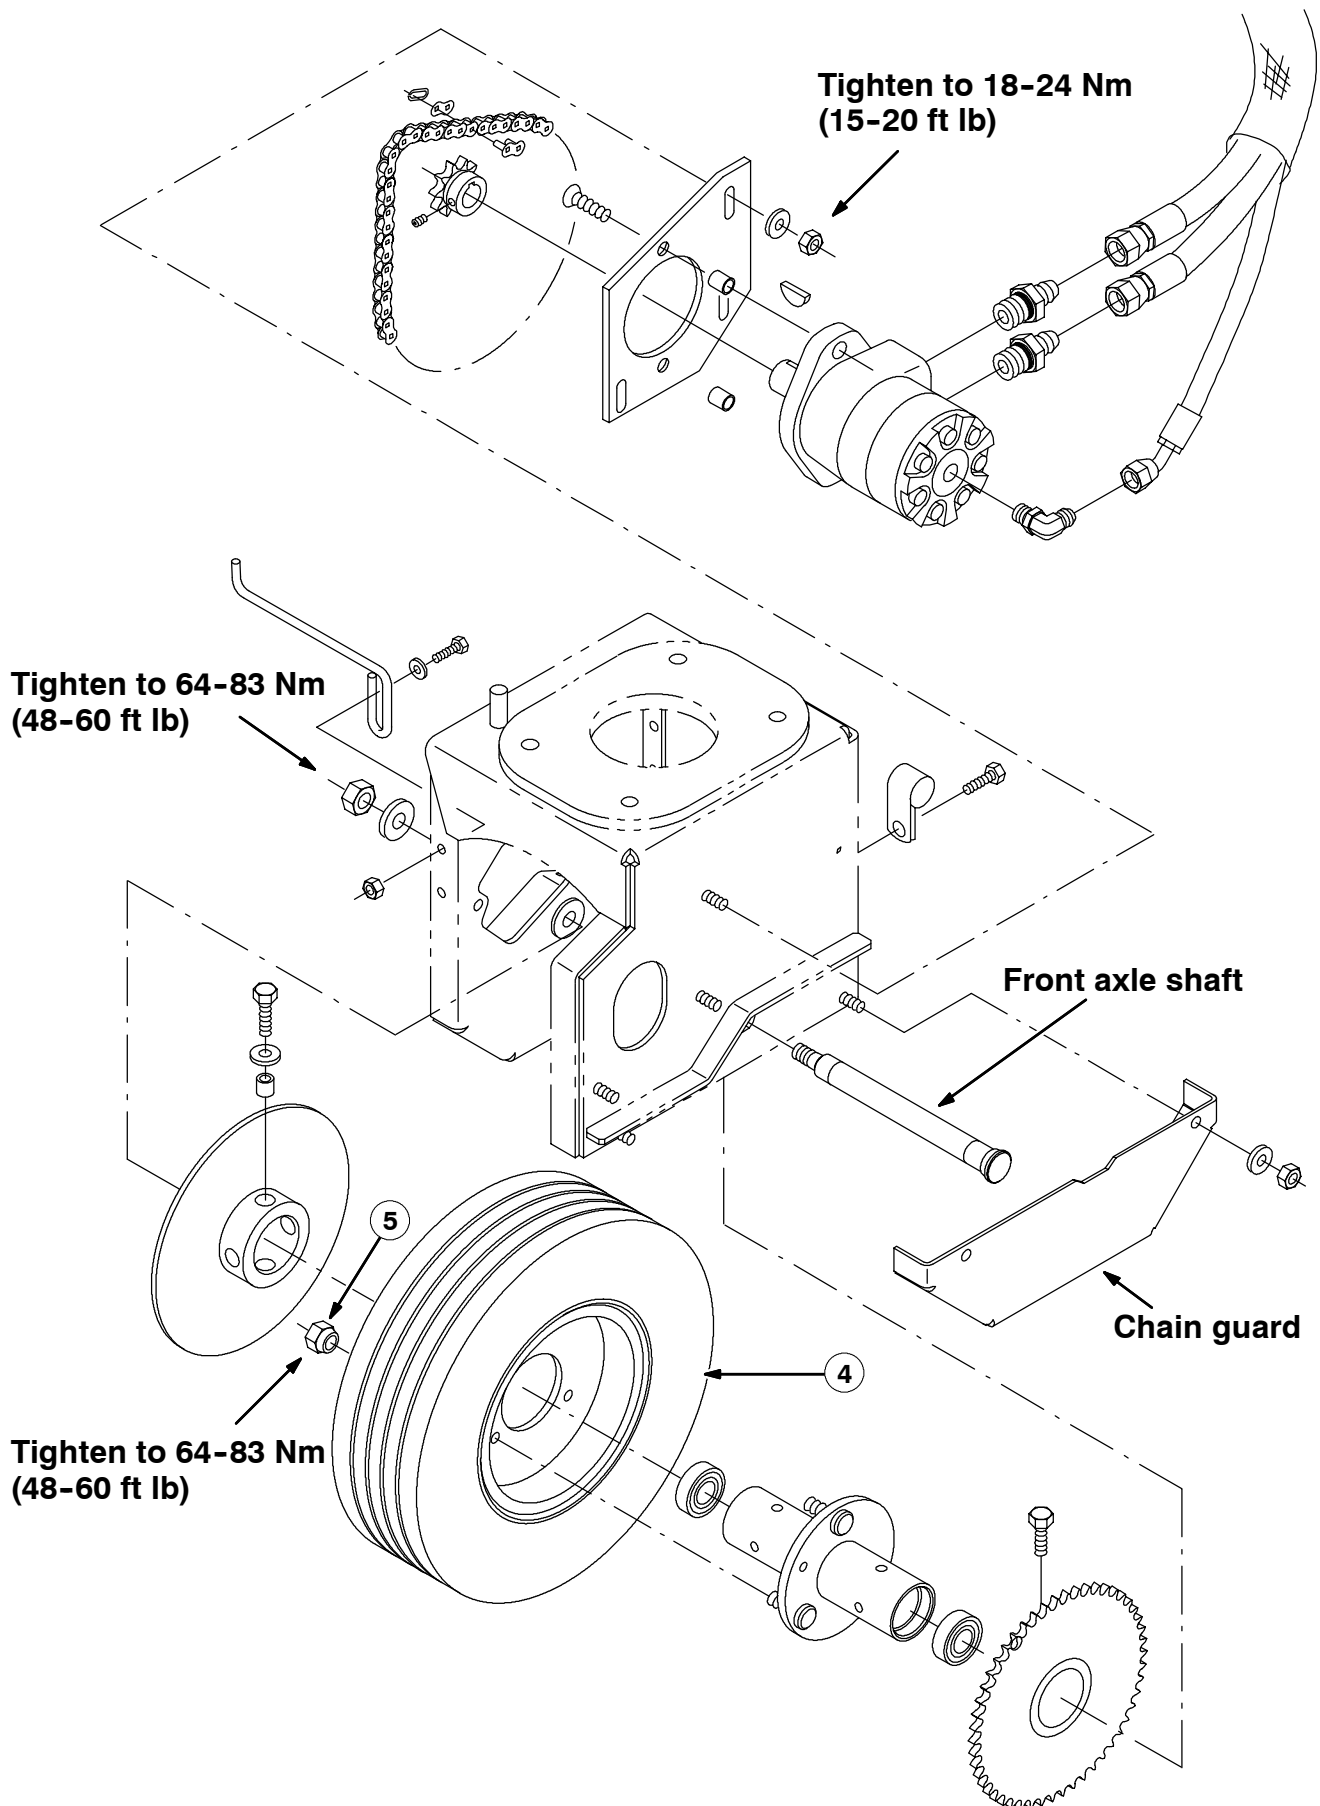

FIG. 2 - Front Drive Wheel Group, Gas and LPG machines
(Refer to FIG. 2 and 3)
2. Remove the two nuts holding the chain guard to the wheel support. Remove the chain guard. (Refer to FIG. 2 and 3)
3. Loosen the three nuts holding the hydraulic motor (Gas or LPG machines) or drive motor gearbox (Electric machines) to the wheel support. Let the hydraulic motor or drive motor gearbox drop down so the drive chain has some slack. (Refer to FIG. 2 and 3)
11. Position the new front tire assembly (4) onto the front hub assembly. Reinstall the three wheel nuts (5) and tighten to 64–83 Nm (48–60 ft lb). (Refer to FIG. 2 and 3)
16. Push the wheel axle , from the right hand side, into the wheel housing and wheel hub. Note the “D” shape of the wheel support mount hole and the “D” on the axle shaft. Line these two up and push the axle all the way into the mount hole. (Refer to FIG. 2 and 3)
17. Install the washer and nyloc nut onto the axle shaft. Tighten to 64–83 Nm (48–60 ft lb). (Refer to FIG. 2 and 3)
19. Push the hydraulic motor (Gas or LPG machines) or drive motor gearbox (Electric machines) up until the drive chain is tight (+/- 1/8 inch at mid-point). Tighten nuts to 18–24 Nm (15–20 ft lb). (Refer to FIG. 2 and 3)